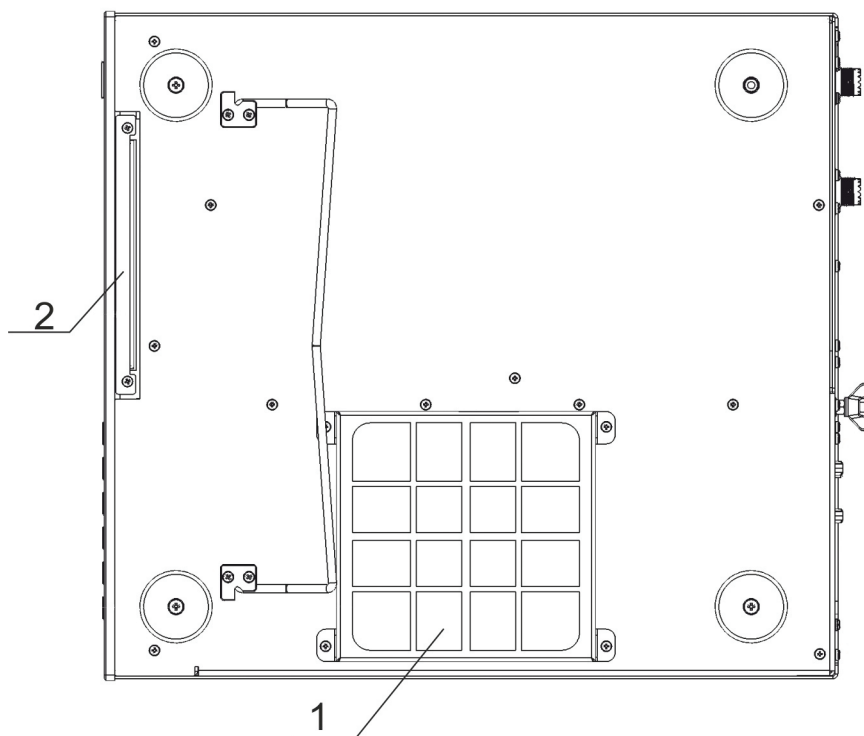

Fig. 7-1 – Bottom view - Air filters
ACOM 1200S has two air filters that are accessible from the bottom - see Fig. 7-1. Use a Philips-1 screwdriver to remove the square filter cover from the PA air filter (1). Remove the cover and take out gently the foam-like plastic filter. To remove the PS air filter (2) unscrew the 2 mounting screws. Using a small flat screwdriver or tweezers gently lift the filter tray away from the amplifier body. Carefully clean the filters and covers from dust, wash them with tap water and *leave them to dry up before you mount them back.*